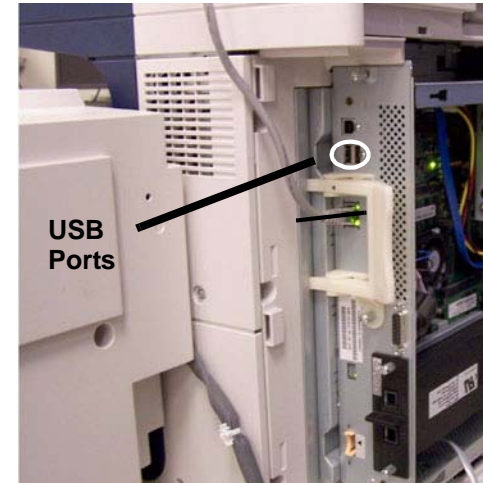

Figure 2 USB Ports
7. Connect the USB Flash Drive to one of the USB Ports on the Control Unit (**Figure 2**).